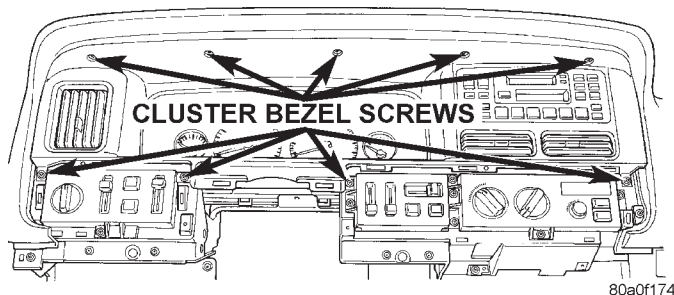

Fig. 5 Cluster Bezel Screws Remove/Install
- (1) Disconnect and isolate the battery negative cable.
- (2) Remove both switch pod bezels as described in this group.
- (3) Remove the ten screws that secure the cluster bezel to the instrument panel (Fig. 5).